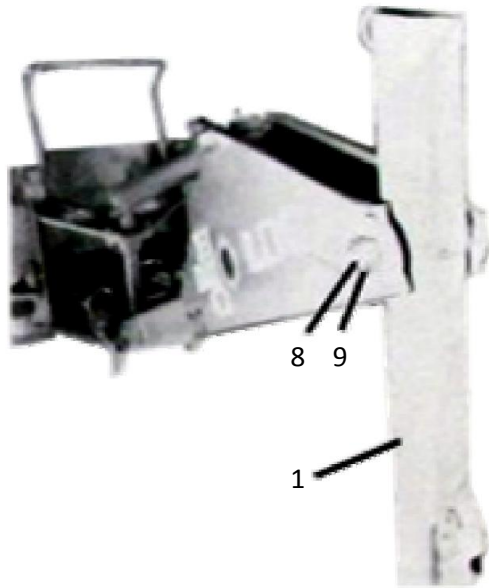

Fig. 2
(1) Remove the 1" x 6 1/2" plated bolt (Item 8 in the main boom assembly) from the main boom. Using an overhead hoist, raise the main boom until the dipper arm (Item 1) can be inserted between the side plates on the top end of the main boom as shown in Fig. 2. Re-insert the 1" x 6 1/2" plated bolt from the left side through the boom and the dipper arm. Secure the bolt with a 1" self-locking hex nut (Item 9 in the main boom assembly).